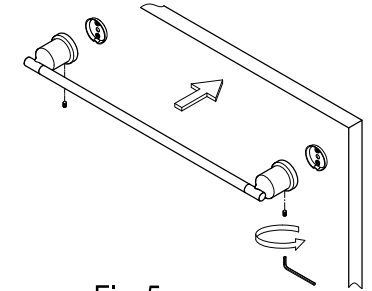

Fig. 5
- Step 7. Insert the unit with holes facing down to the bracket and tighten setscrews with an Allen wrench until the base is tight and secure (fig 5).
- Step 6. Secure the mounting brackets (with the holes on a level) to the wall using the provided screws (fig 5).